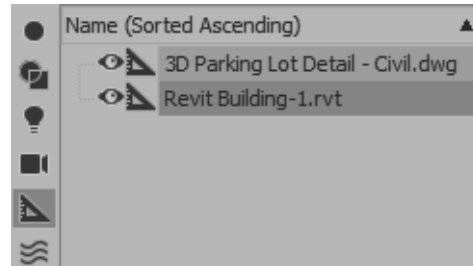

Figure 3–40
14. In the Scene Explorer, click  (Display None) and  (Display Helpers), if required, and then select the helper object **Revit Building-1.rvt**, as shown in Figure 3–40.